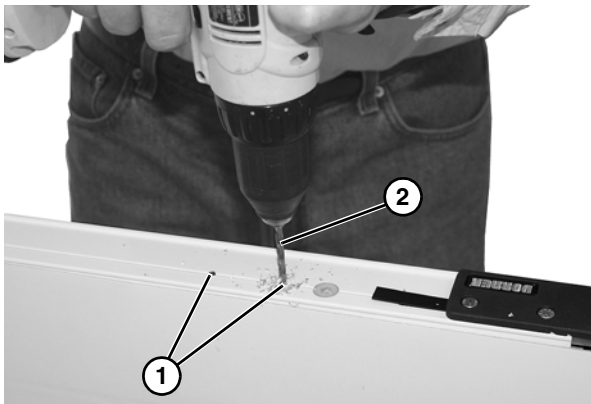

Figure 21
2. Drill the hole locations (**Figure 21, item 1**) with a 3/16" drill bit (**Figure 21, item 2**).